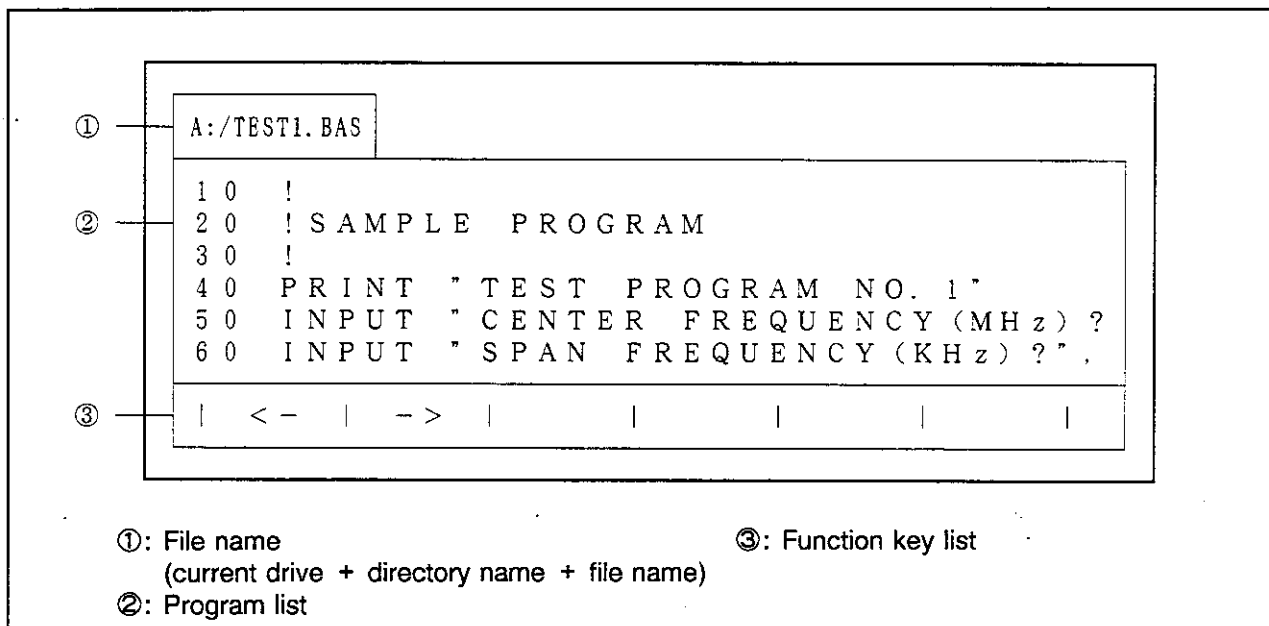

Figure 4-32 TYPE Display Screen
- ④: The file attributes are indicated as follows;
- ⑦: The function key list indicates the function keys available in the FILE mode. (For details, see (1) through (7) in Section 4.1.4 "FILE Mode.")
- ⑧: The scroll bar indicates the ratio of the displayed files to all of the files included in the current directory.
(4) TYPE (file contents display) screen
When TYPE (K1) is selected with the function key from the FILE mode, a screen like that shown in Figure 4-32 appears if the working file is a text file. (For details, see (1) in Section 4.1.4 "FILE Mode.")